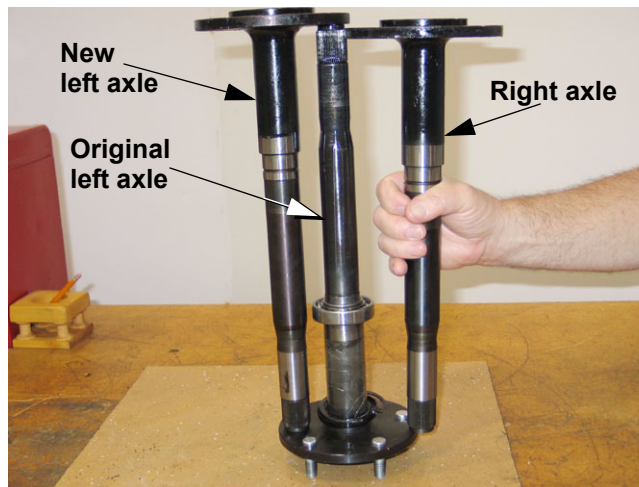

Figure 1.12
- 1.12. With the axle removed, it can be compared to the replacement axle to confirm correct length. See Figure 1.12.